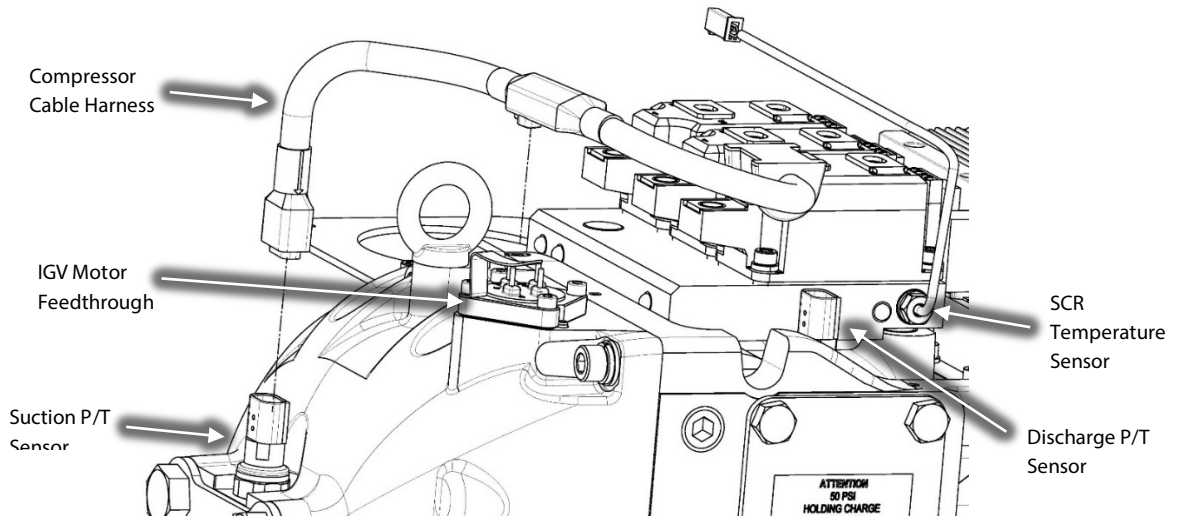

Figure 13 – Compressor Cable Harness Removal
21. Disconnect the compressor cable harness from the IGV Motor, Suction and Discharge Sensors, and SCR Temperature Sensor. Refer to Figure 13 (Compressor Cable Harness Removal).